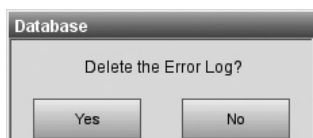

Fig. 6-26 Delete Error Log
5. Confirm your choice by pressing  in the **<Delete the Error Log?>** screen (Fig. 6-26).